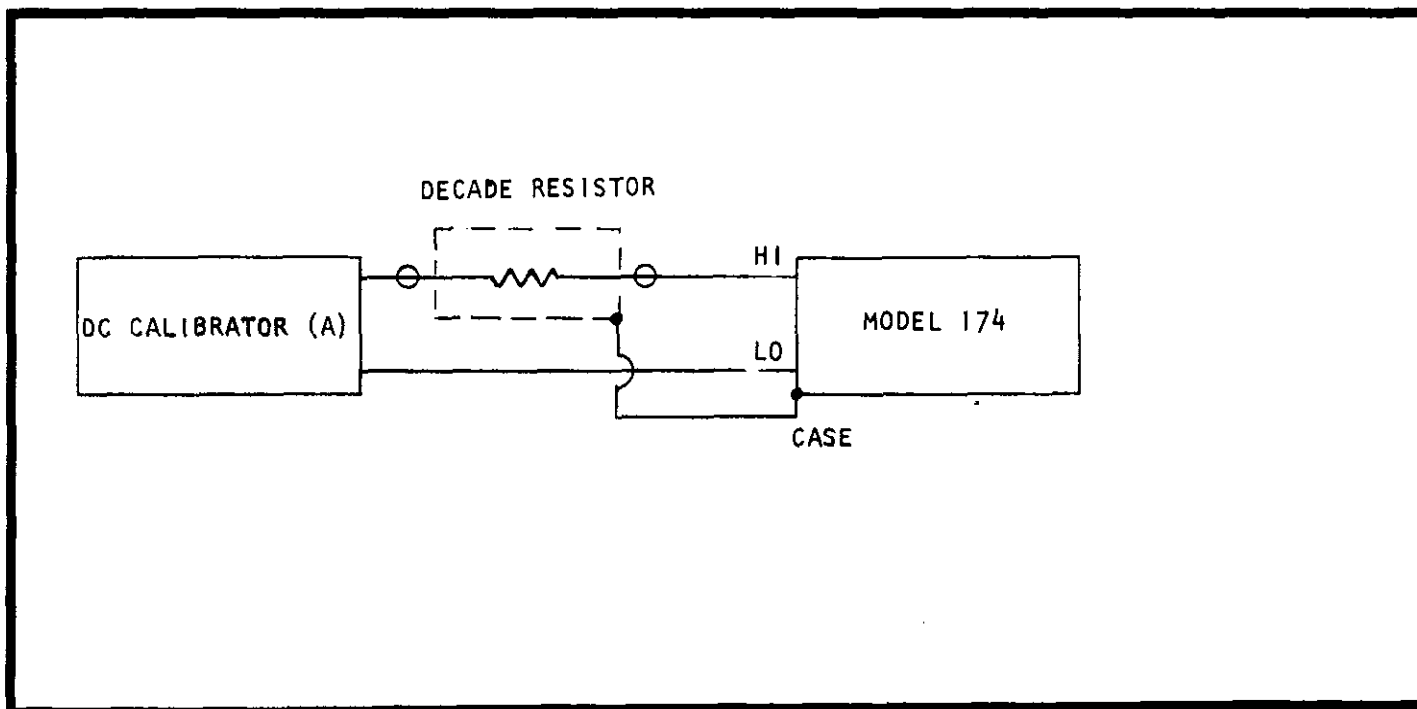

FIGURE 35. Test Circuit For 3 μ A Verification.
- c) Connect the DC Calibrator (A) and series 1MΩ Decade Resistor (D) to the Model 174 input terminals, as shown in Figure 35.
- h) Connect the DC Calibrator (A) and series 10MΩ Decade Resistor (D) to the Model 174 input terminals, as shown in Figure 35.
* NOTE: For the 30 μ A and 300 μ A ranges, a Current Source must be composed of the DC Calibrator (A) and series connected Decade Resistor (D), as in Figure 35.